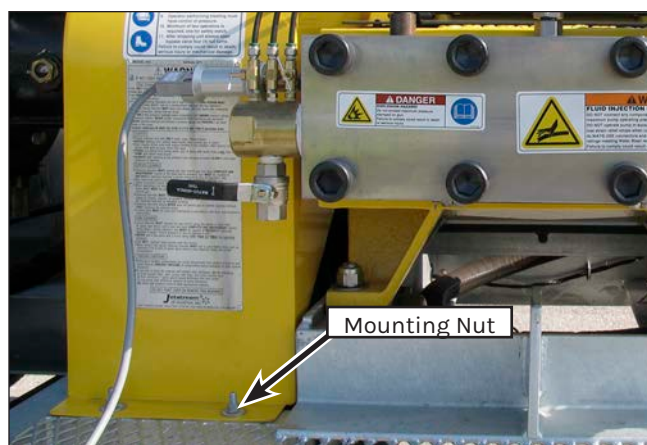

Figure 142: Belt Guard Hardware.
3. Remove the five mounting nuts (Figure 142) that secure the belt guard to the unit and lift the guard from the unit.
6. Install the five nuts and washers that secure the guard to the unit (Figure 142).